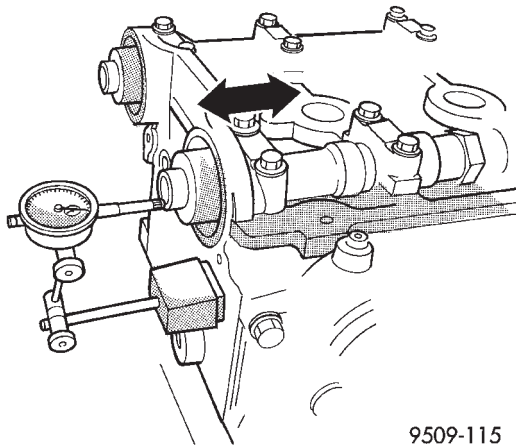

Fig. 29 Camshaft End Play
- (1) Oil camshaft journals and install camshaft **WITHOUT** cam follower assemblies. Install rear cam caps and tighten screws to specified torque.
- (2) Using a suitable tool, move camshaft as far rearward as it will go.
- (3) Zero dial indicator (Fig. 29).
- (4) Move camshaft as far forward as it will go.
- (5) End play travel: 0.05–0.15 mm (0.002–0.010 in.).
- (6) If end play is excessive check cylinder head and camshaft for wear; replace as necessary.